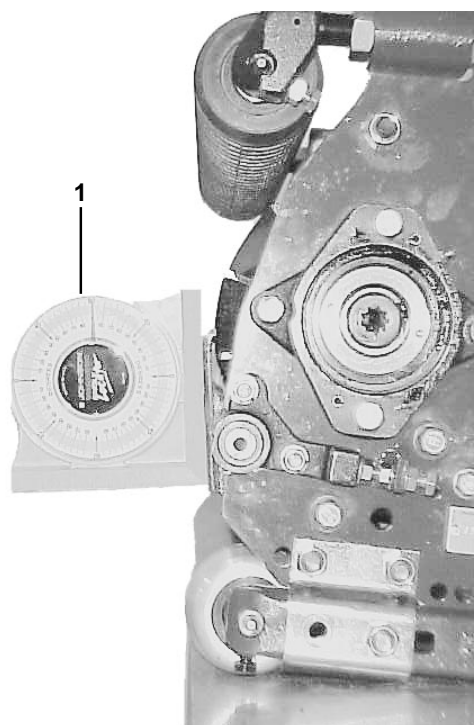

Figure 15
2. Place an angle indicator, Toro part no. 99-3503, on the bedknife and record the bedknife angle (Fig. 15).